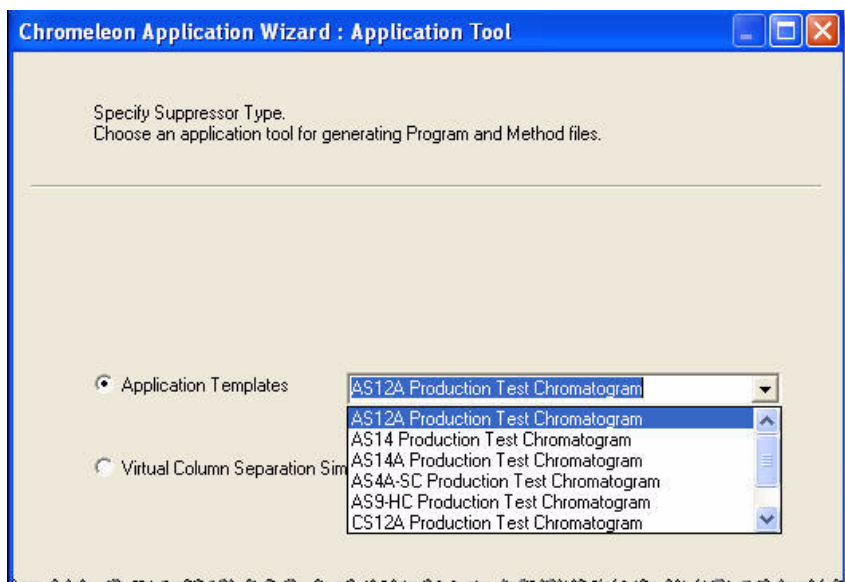

Figure 3-11. Application Wizard
- b. Select an application template from the list (see Figure 3-11).